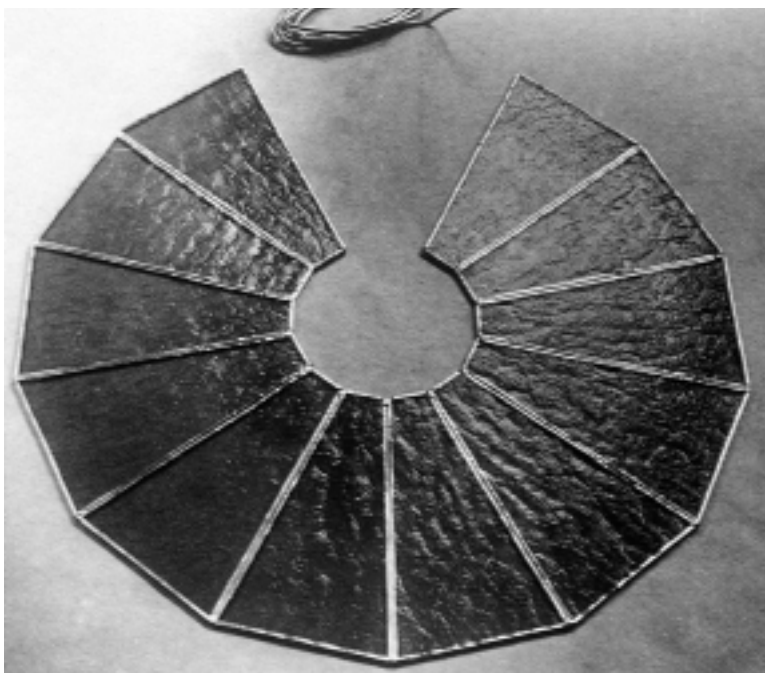

Fig 14.5
6. Lay out all B panels in an incomplete circle (fig 14.5) with the side that will be inside facing up. On textured glass, the rougher side normally goes inside the lamp, so will face up. Flux and lightly tack the pieces together at the corners.